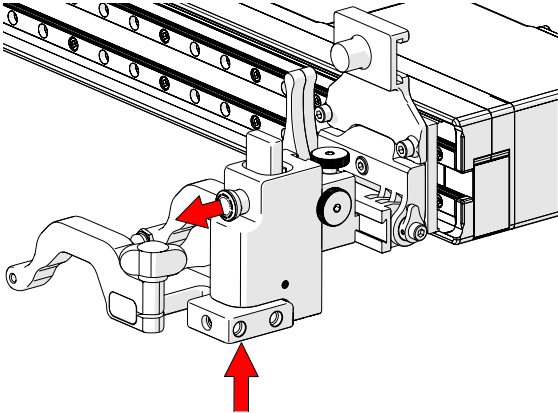
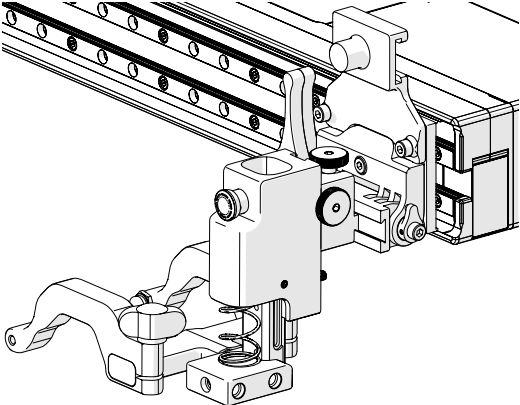

Fig. 94 - Press up and pull latch
Fig. 95 - Lowered toward scan surface
1. Gently lift the heavy duty vertical probe holder and simultaneously pull the latch (Fig. 94). This action will unlock the probe holder. Slowly lower the probe holder towards the scan surface (Fig. 95).